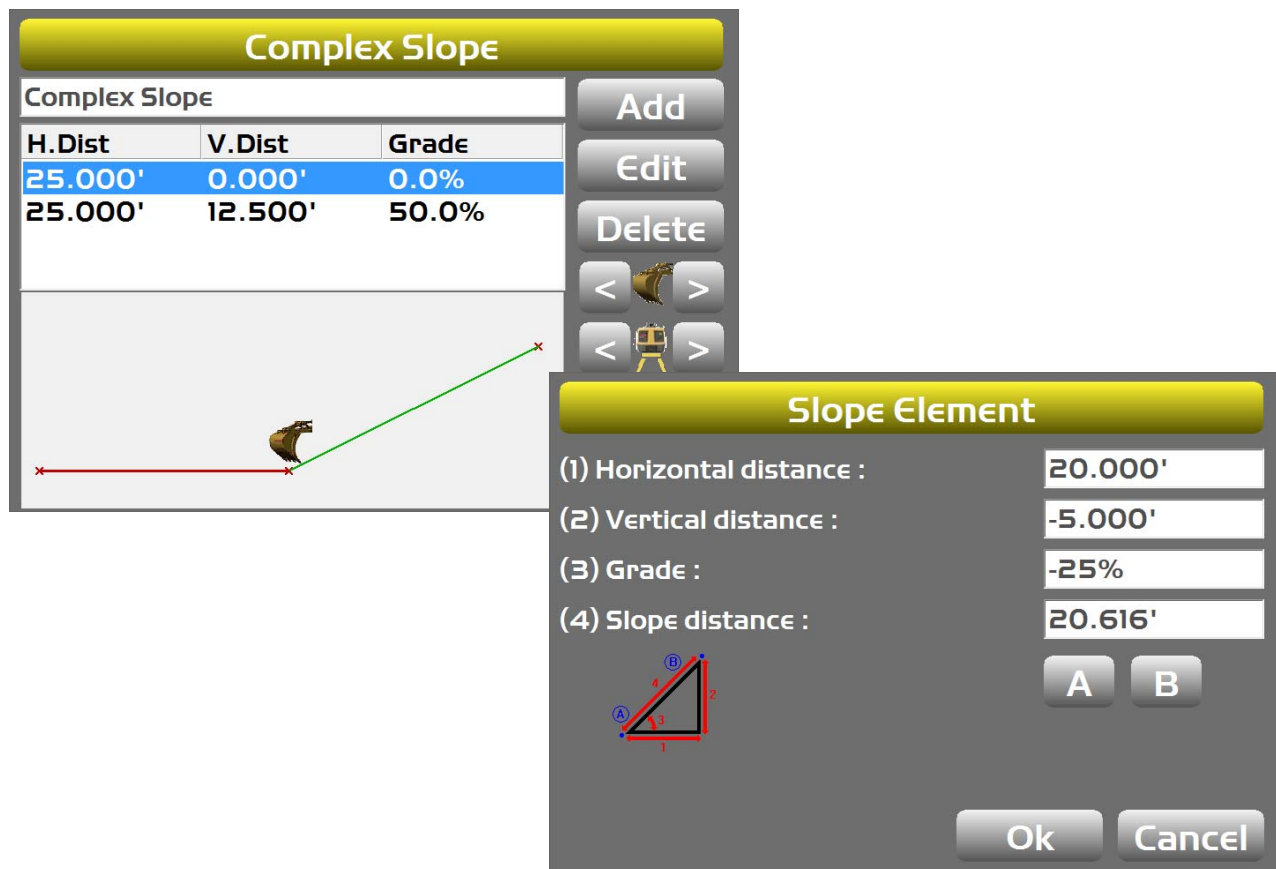

Figure 139: Set Up a Complex Slope
1. Press the Power button on the display, then tap **Tools ▶ Complex Slope**. The **Complex Slope** screen appears (Figure 139).
2. To add a slope element, tap **Add** and enter the parameters on the **Slope Element** screen (Figure 139).